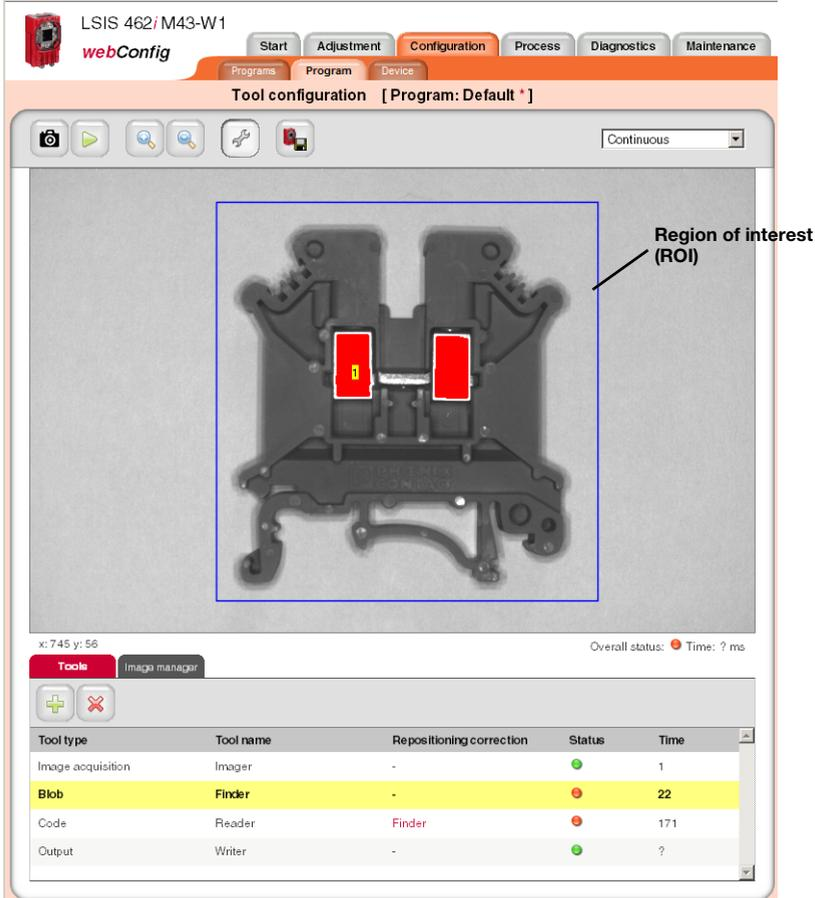

Figure 3.16: "BLOB" image display
1. The segmentation yields a list with active BLOBs. The BLOBs whose complete properties lie within the borders defined by the prefilter (= actual value in the prefilter list marked in green) are valid BLOBs and are displayed in green in the overlay; the other, invalid BLOBs in the overlay are displayed in red (see figure 3.16 on page 30).